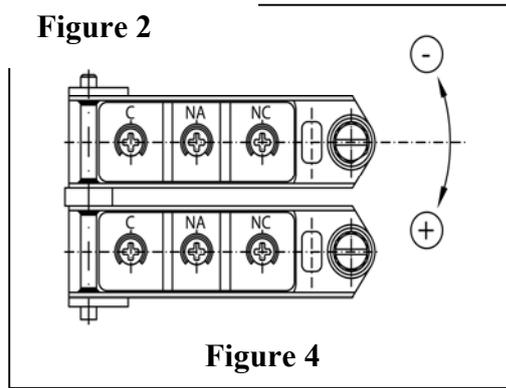

Figure 4
3.43 - 3.45 and differential micro-switch which is suitable through fork (Figure 4), wire internal and external, provided Pressure switches type: 3.26 - 3.29 are provided with internal cables whose maximum section connection both internal and In order to perform the electrical requested electrical charge technical requirements concerning connection and commutation instruments. The cable diameter size should be suitable for insertion into a cable gland if requested.